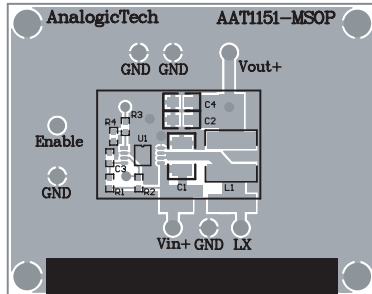

Figure 2: MSOP Evaluation Board Top Layer.
The input capacitor RMS ripple current reaches a maximum when  $V_{\text{IN}}$  is two times the output voltage where it is approximately one half of the load current. Losses associated with the input ceramic capacitor are typically minimal and are not an issue. Proper placement of the input capacitor can be seen in the reference design layout in Figures 2 and 4.
Figures 2 through 5 display the suggested PCB layout for the AAT1151. The following guidelines should be used to help ensure a proper layout.
- Low pass filter R1 and C3 provide a cleaner bias source for the AAT1151 active circuitry. C3 should be placed as closely as possible to SGND (Pin 2) and  $V_{\text{CC}}$  (Pin 4). See Figures 2 and 7.